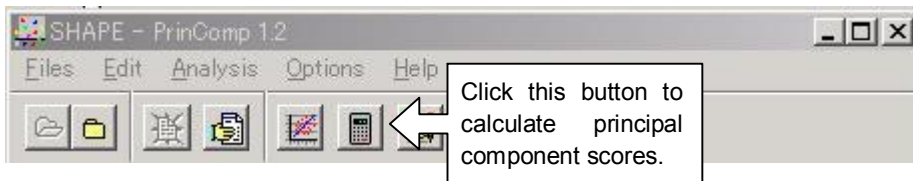

Fig. 29
28. To calculate the scores of principal components, select "Calculate Prin Score" button (Fig. 29). Then, the "Prin Score Dialog" will appear.